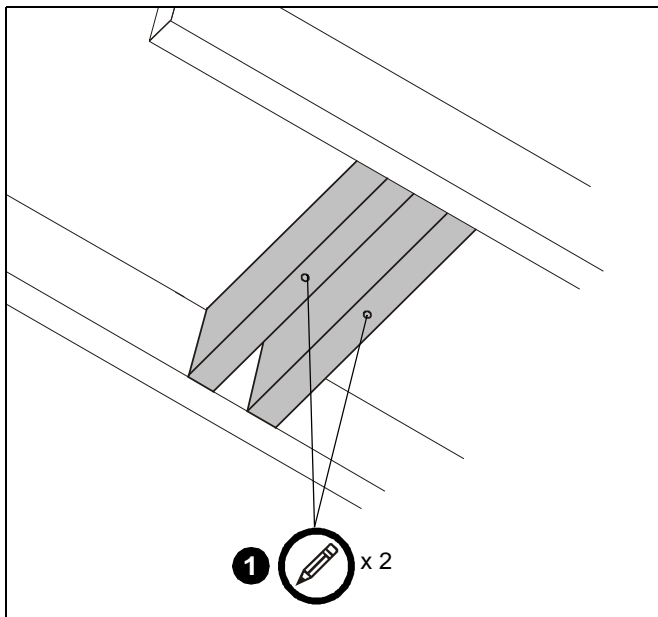

Figure 1
1. Using CPA395 plate (A) as a template, mark locations of two pilot holes (See Figure 1). Ensure the marks are in the center of wood joists.
2. Drill 1/4" diameter pilot holes into wood joists (See Figure 1). Ensure pilot holes are straight.